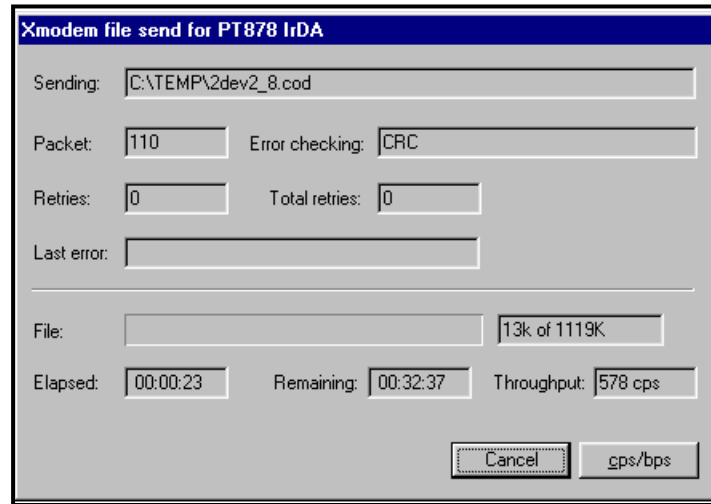

Figure 71: File Transmission Window
5. Click *Send*. For a successful transfer, the PC window appears similar to *Figure 71*, while the PM880 AC screen displays the program ID, size, load address and a count of blocks being loaded.